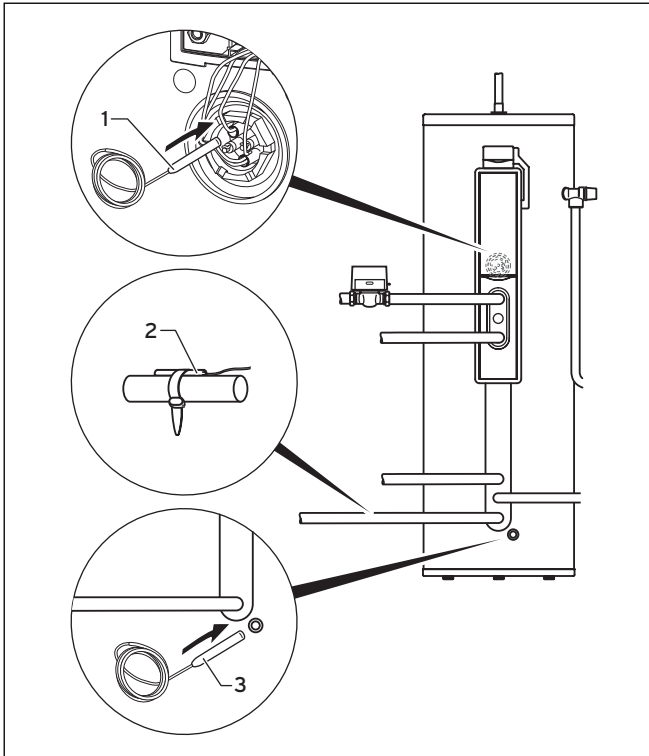

**Fig. 5.22 Removal of the cylinder thermostat**
- Overview removal of the cylinder thermostat (see Fig. 5.22)